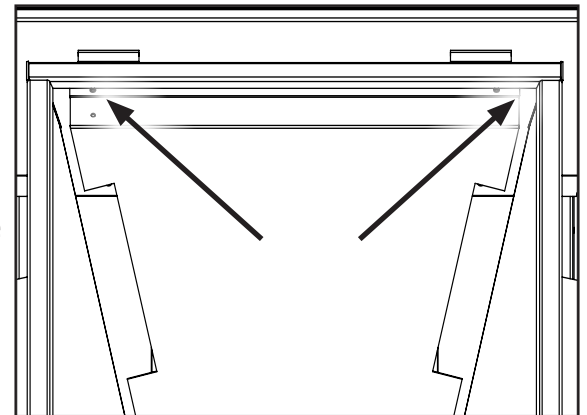

Figure 43. Baffle Screws.
3. Next, remove the firebox baffle by unscrewing the two screws indicated in Figure 43. Lower the front of the baffle down and then lift it out of the two locating screws at the rear of the firebox.